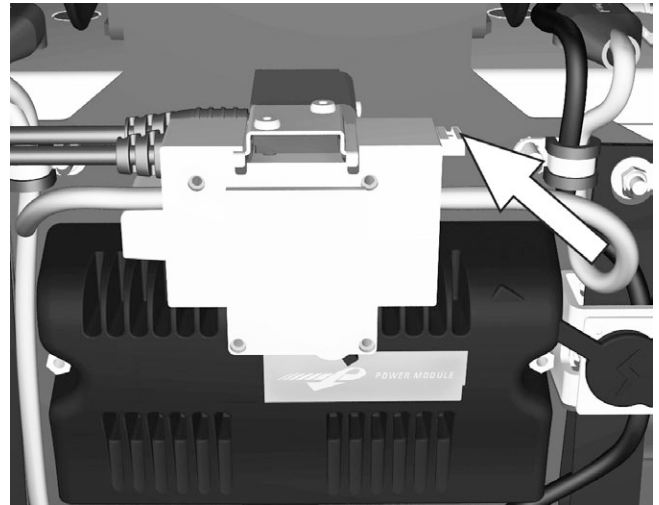

Figure 159. Circuit breaker bracket.
6. Release the main fuse by pulling the small handle on the right hand side of the main fuse. See fig. 159.
Pulling the small handle on the right hand side of the new main fuse and position it on the chassis. Fix it in correct position by releasing the small handle. See fig.159.